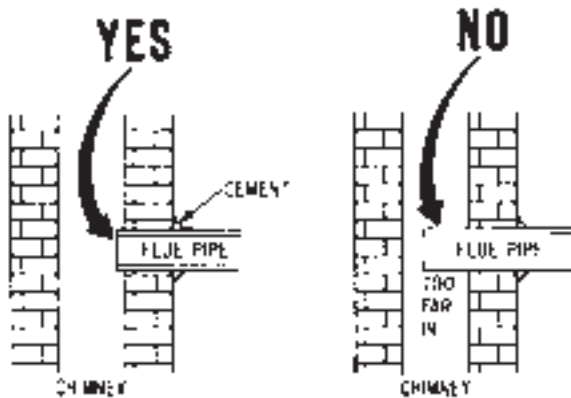

Figure 7
- When connecting the flue pipe to the chimney, the pipe **MUST** go fully in and be cemented. **See Figure 7.** The flue pipe **MUST NOT** go too far into the chimney. It should be cut off as it will interfere with normal venting. **See Figure 7.**